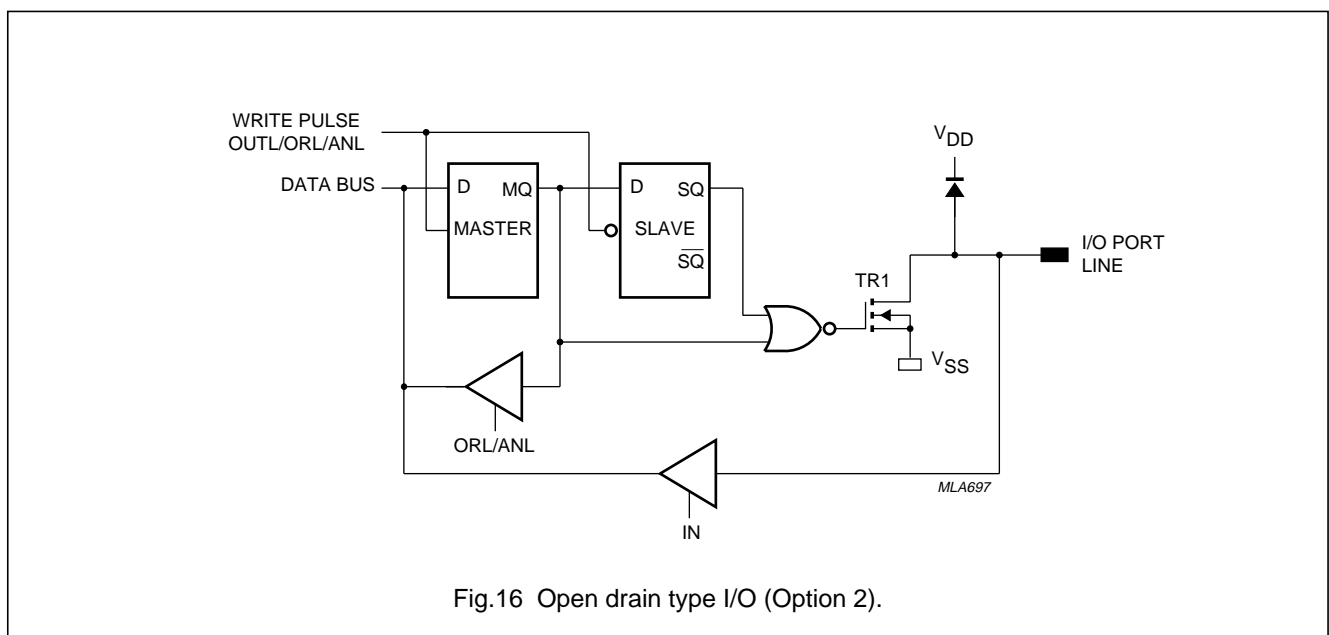

Fig.16 Open drain type I/O (Option 2).
- Option 2 Open drain, Fig.16.